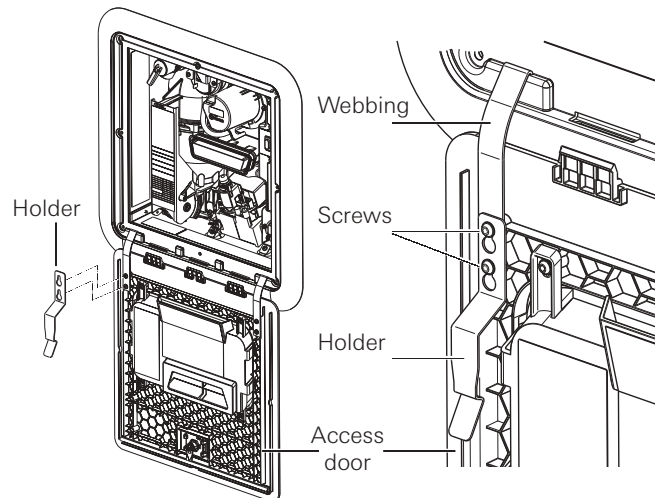

Fig. 2
3. Attach the holder to the rear side of the access door, as shown in Figure 2.